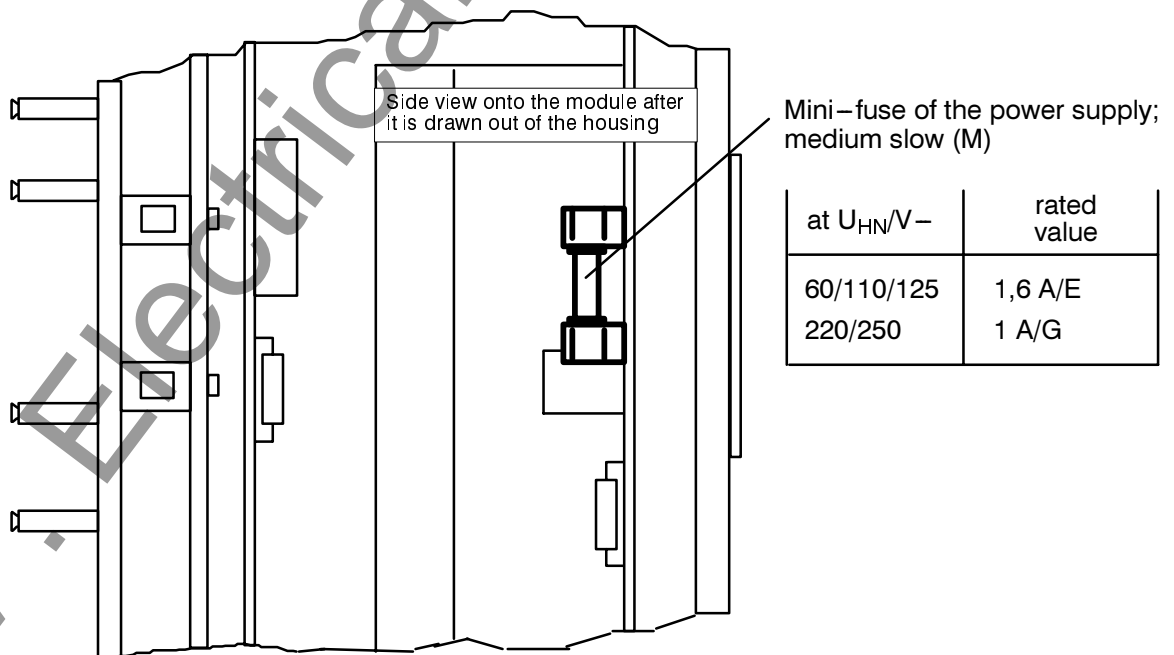

Figure 7.1 Mini-fuse of the power supply
- Has the mini–fuse in the power supply section blown (see Figure 7.1)? If appropriate, replace the fuse according to Section 7.2.1.
- Select a replacement fuse 5×20 mm. Ensure that the rated value, time lag (medium slow) and code letters are correct. (Figure 7.1).
- Remove blown fuse from the holder (Figure 7.1).
- Fit new fuse into the holder (Figure 7.1).